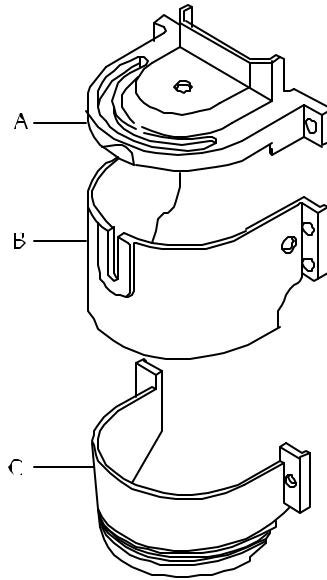

Figure 2
- Using a 3 mm Allen Wrench **remove** 6 screws and B and C Sewing Head Covers. See *Figure 2*.